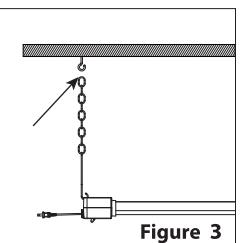

Figure 3
3. Install fixture to ceiling by hanging the chain to pre-mounted screw-hooks on ceiling (See Figure 3).